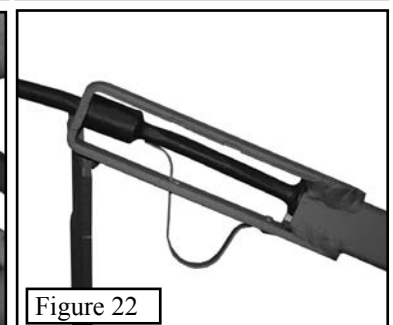

Figure 22
Step 4. Your cable bracket should now look like **Figure 22**. **WARNING:** If the QuickDraw cable spring does not lock into place behind the cable stop, **DO NOT USE THE TREESTAND!** Contact Summit to obtain the proper corrective action.